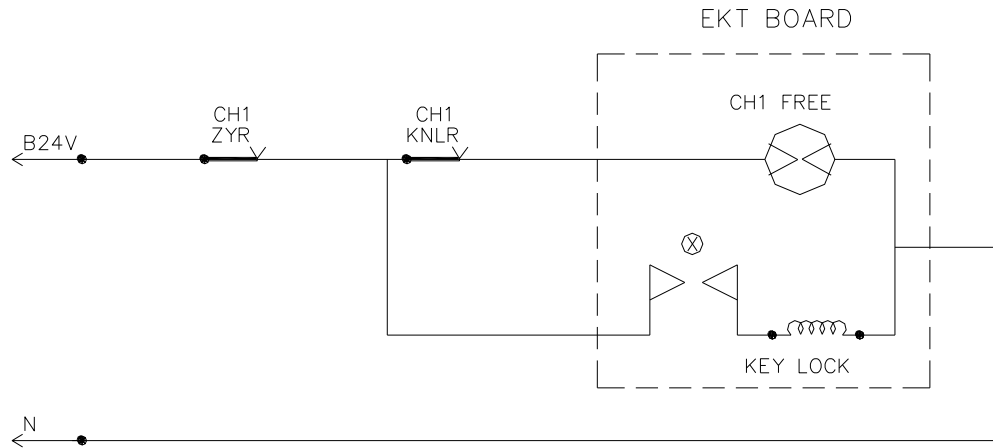
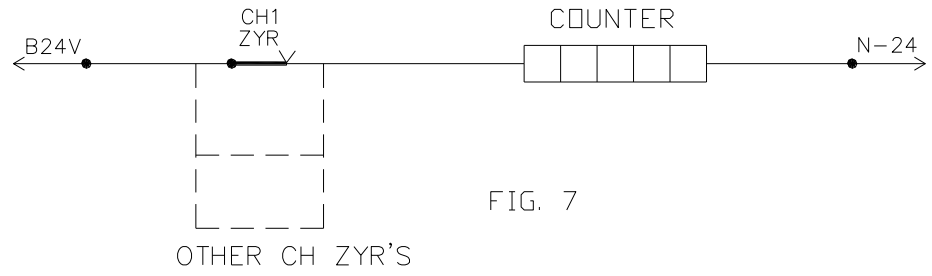

FIG.3
FIG. 7
Now refer Fig 2 & Fig 7 with CHJPR[↑] & CH1EZYR[↑], CH1ZYR will pick up. So crank handle will be taken out as explained in Fig. 3
Since CH1EZYR in Fig7 picks up through CH1ZYR[↓] as soon as CH1ZYR[↑], CH1EZYR feed will be cut off. EZYR is energized for some time to help CH1ZYR to pick up and hold through its own contact as shown in Fig.2. So CHEZYR is made to slow to release.
- Fig 3 gives the circuit of LXRPR, a site relay.